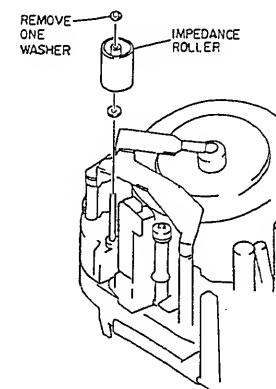

Fig. 2-67
1. Remove one (1) washer and pull out the impedance roller. (See Fig. 2-67)